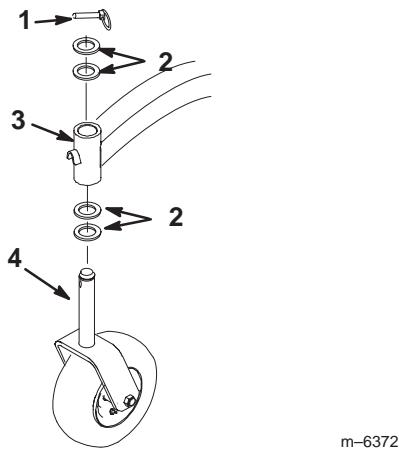

Figure 80
2. Remove the locking pin and spacer(s) from the top of the caster wheel fork (Fig. 80).
- Inspect the caster wheel fork for wear and replace if necessary (Fig. 80).
- Slide the caster wheel fork through the bushings in the mounting tube. Replace the spacer(s) onto the fork and secure with the retaining ring (Fig. 80).